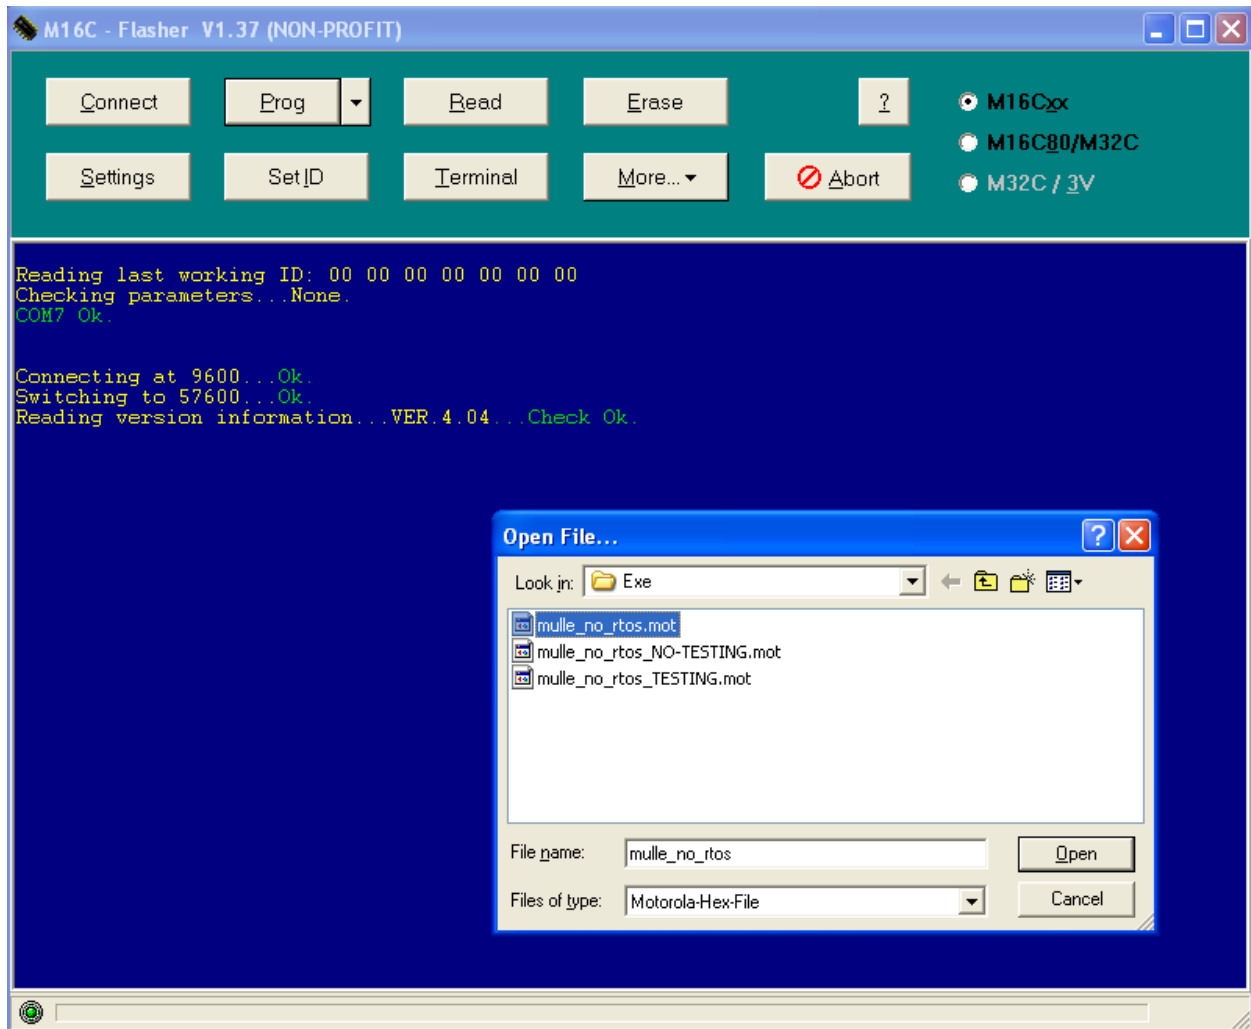

Figure 4: M16C Flasher. Choose firmware to download
6. In the M16C Flasher main window, click "Connect" followed by "Prog". The window should now look like Figure 4.
7. Choose the new firmware to download by browsing to it and click “Open”. See Figure 4.